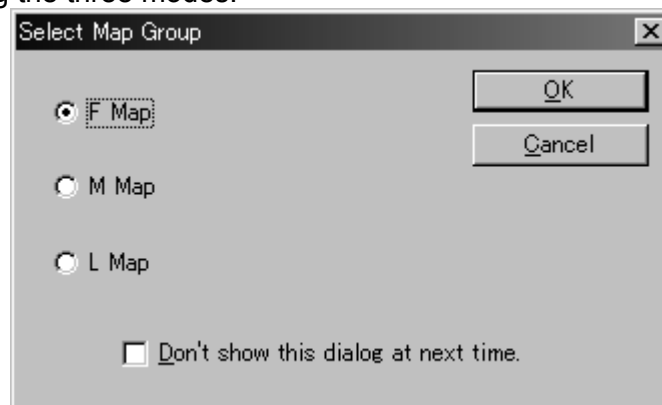

Fig. 92 Select Map Group Dialog
- (4) Select the data file (EST file) to be edited in the Open File dialog and click the **Open**. The Select Map Group dialog shown in Fig.92 appears. ('11 ZX-10R only)